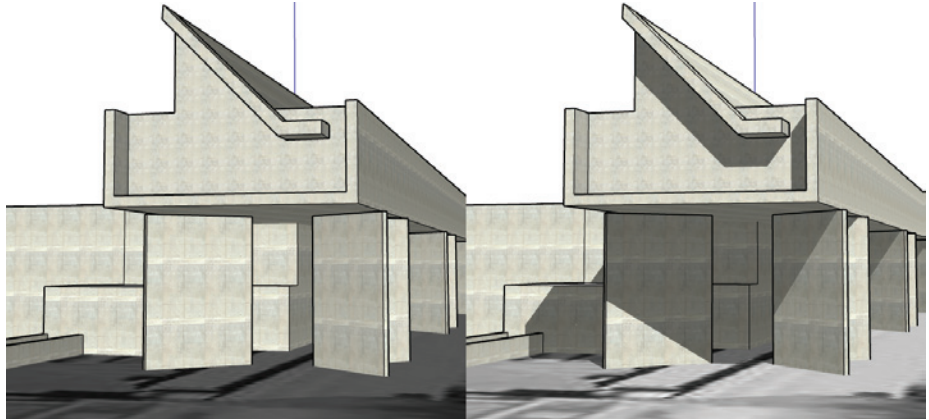

Figure 5.1: Building without and with shadows enabled
- **Shadow settings**—SketchUp has a built-in shadow feature that allows for display of accurate date- and location-based shadows. Particularly architectural models benefit from the display of shadows—surface features are enhanced by giving them the perception of depth, and buildings look more realistic when “the sun gets turned on.” (See **Figure 5.1**.)